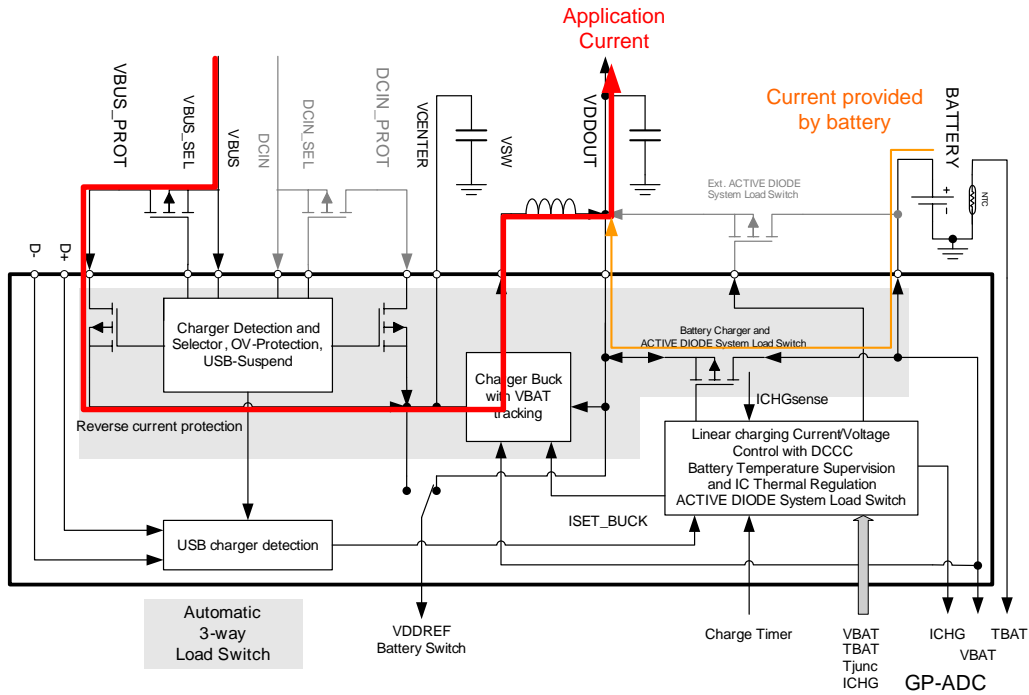

Figure 11: Current path from valid USB according to state C.
- C. If the application load alone exceeds input current limit ISET\_BUCK, the battery linear charger shuts off completely and the extra power is drawn from the battery via the active diode (see Figure 11).